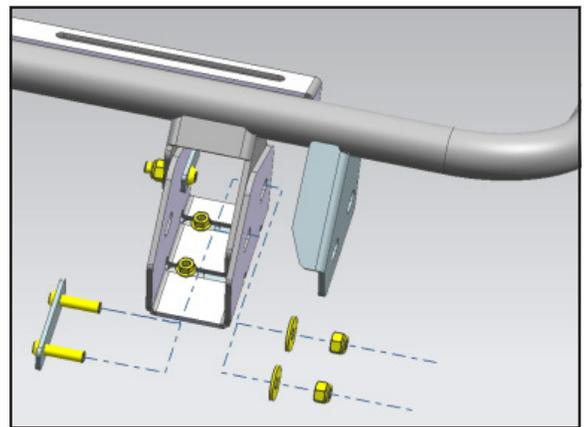

FIGURE 28
- a. Attach the Wind Fairing to the outside of the Mounting Tabs on the Crossbar with the included (4) 8mm Nylon Lock Nuts, (4) 8mm Lock Washers, (4) 8mm x 24mm Large Flat Washers and (2) 8mm Double Bolt Plates, **(Figure 28)**.